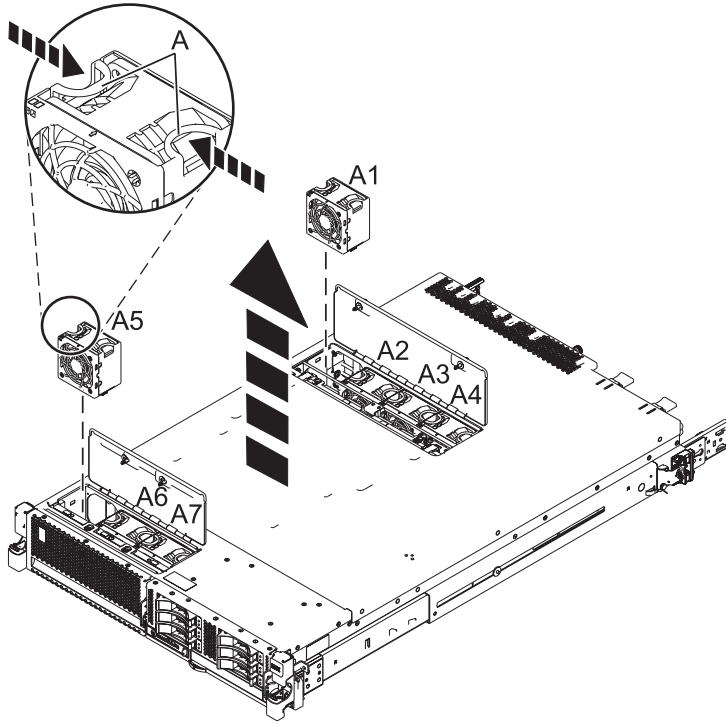

Figure 1. Removing a fan from the 8246-L1C, 8246-L1D, 8246-L1S, 8246-L1T, 8246-L2C, 8246-L2D, 8246-L2S, or 8246-L2T
- a. Feed the fan cage cable through the chassis wall opening as shown in Figure 1.